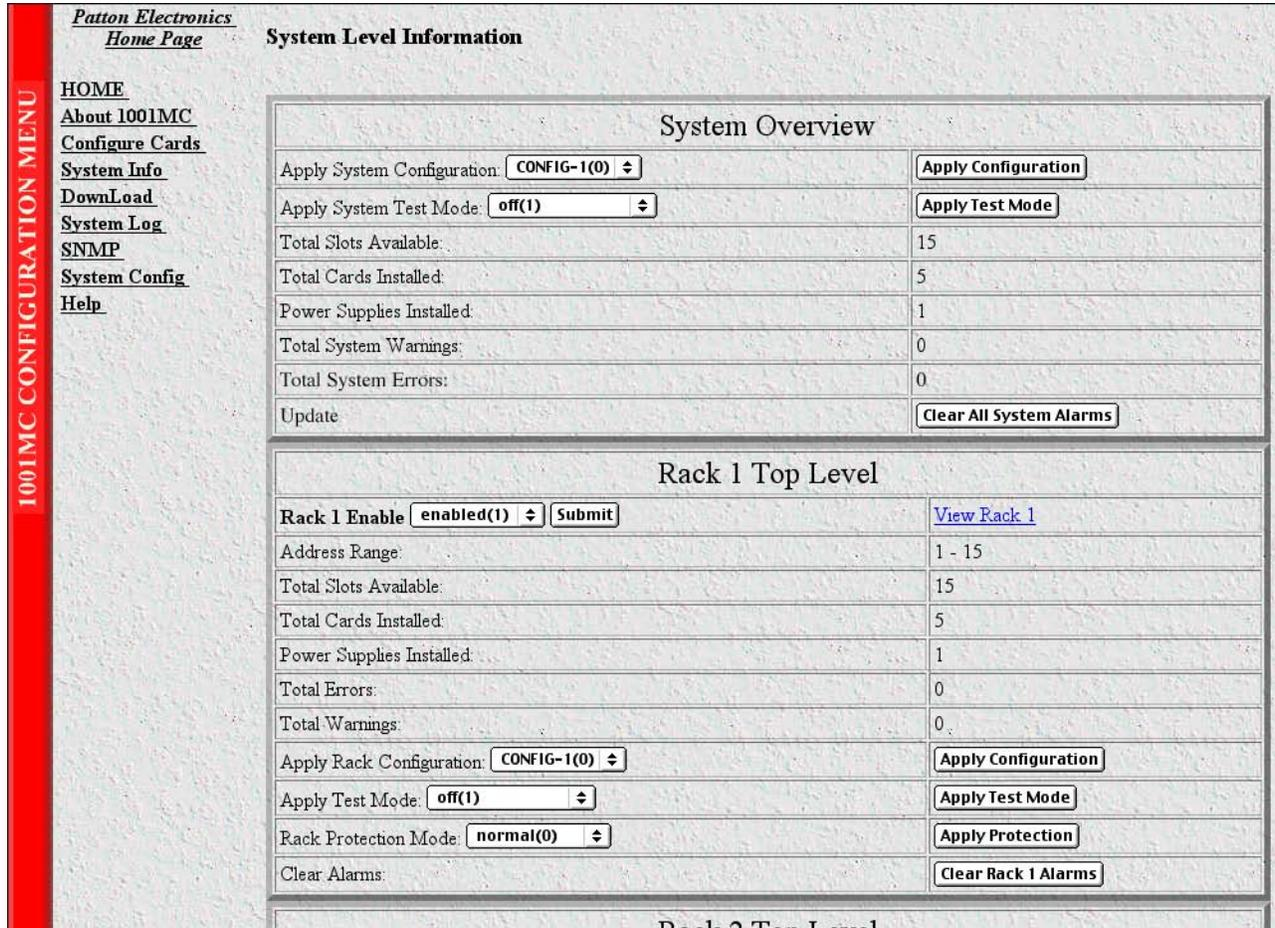
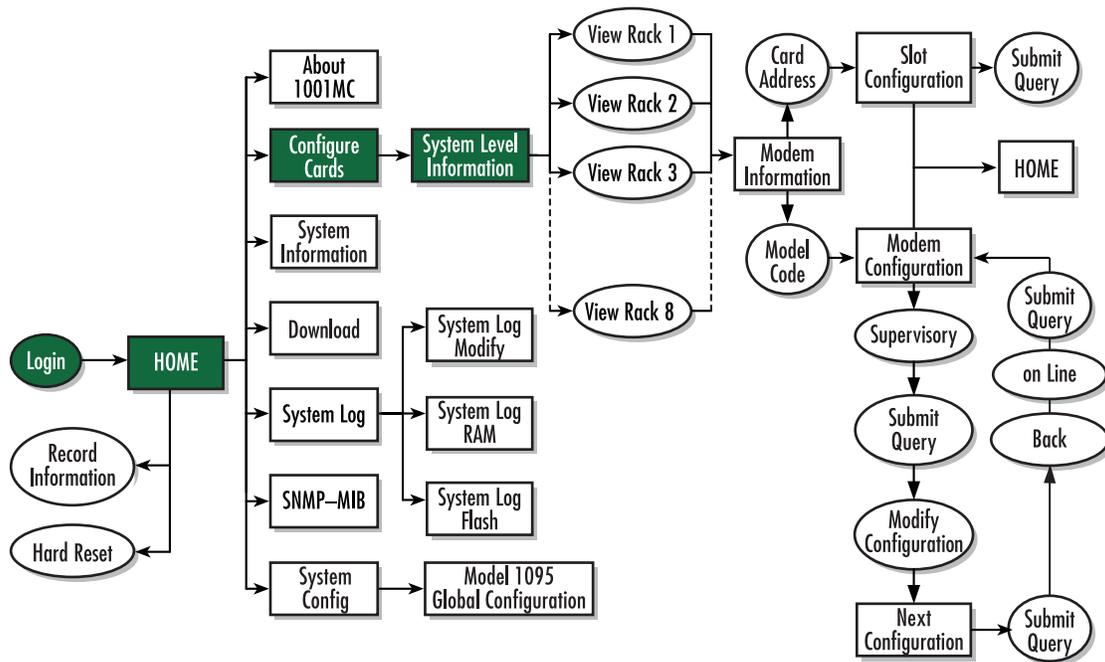

Figure 126. System Level Information page
Figure 127. Web page navigation to System Level Information page
1. Starting from the HOME page, click on the *Configure Cards* link to display the System Level Information page see figure 126. Figure 127 on page 261 shows the web page navigation required to get to this area of the system.
2. Use the *Rack Protection Mode* pop-up menu (see figure 126) to select *protected(1)*.